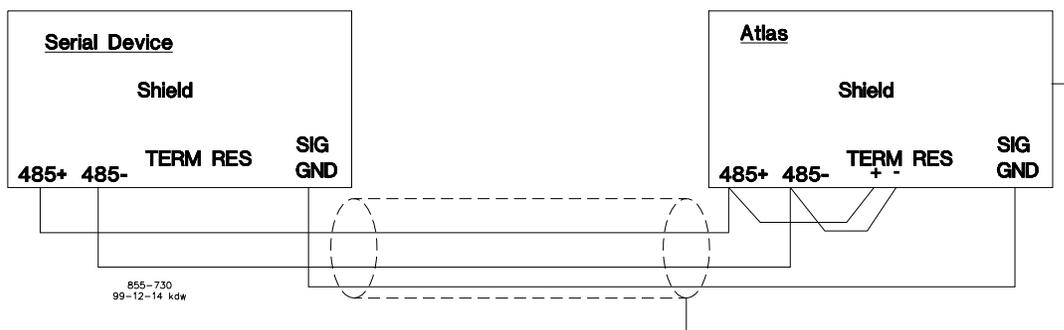
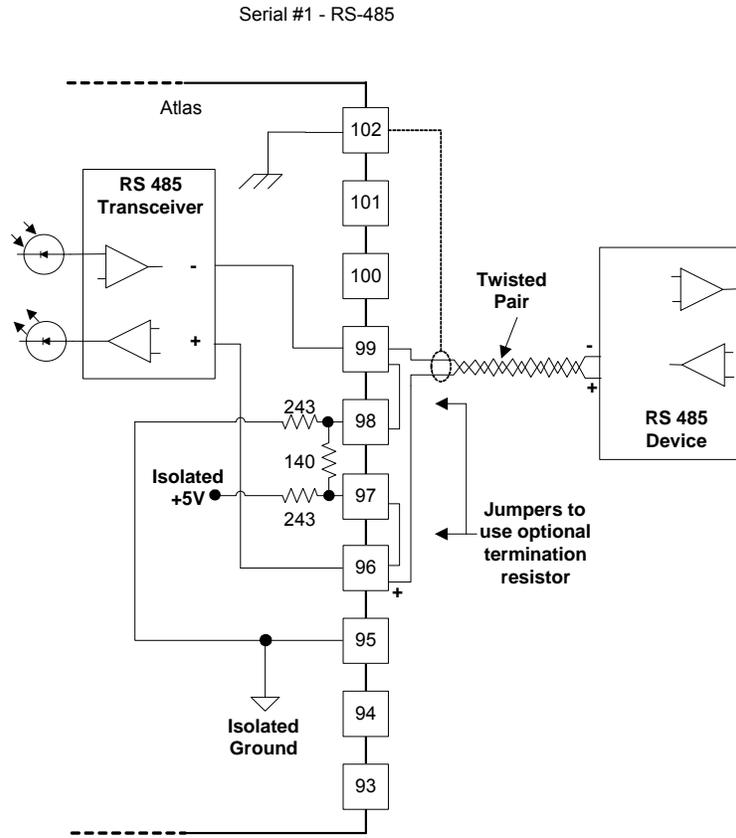

Figure 4-12. RS-485 Interface to the SmartCore Board (wiring example)
Figure 4-15. RS-485 Wiring Diagram (Com 1)
To achieve best performance with RS-485 serial communication networks, it is necessary to terminate the network to prevent interference caused by signal reflections. RS-232 networks are short enough that termination is not required. For ease of setup, Woodward has provided built-in network termination resistors on the SmartCore board for the RS-485 serial ports. To activate the termination resistors, an external jumper must be placed at the connector. See Figures 4-15 and 4-18 for jumper location. The resistor network used is a special design intended to provide maximum noise immunity. The same design should be used at the opposite end of the network. See the circuit diagram (Figure 4-12). This termination network is necessary due to limitations of the Modbus protocol.
- Refer to Figure 4-12 for RS-485 wiring. The data lines (485+ and 485-) and signal ground (SIG GND) must be properly connected as shown. In addition, the shield (SHLD) should be connected in at least one location. The last unit in the chain, and only the last unit, should be terminated with a resistor. The AtlasSC has resistors built in (TERM RES) for this purpose. The unit at each end of the network should be terminated.